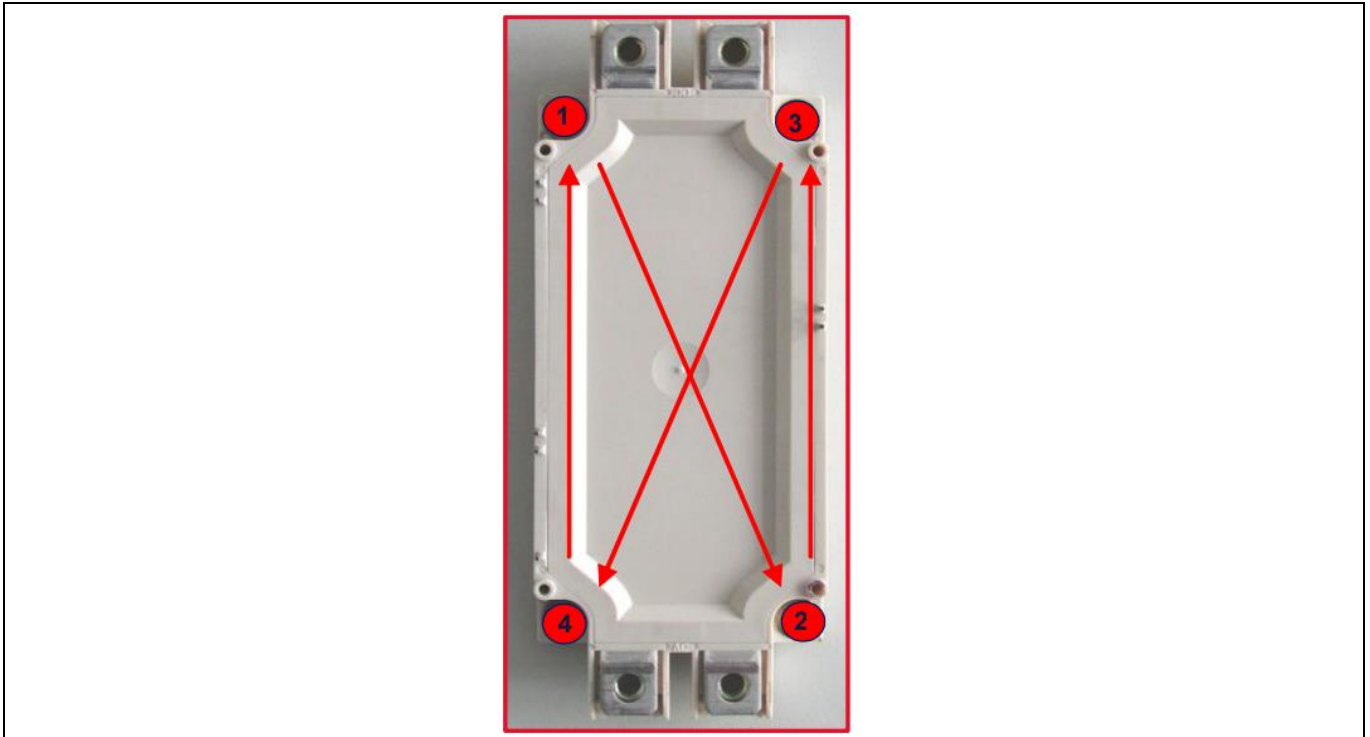

Figure 10 **Tightening sequence to mount the module on the heat sink**
1. Place the module on which the thermal compound is applied onto the heat sink and fix the screws as follows (see *Figure 10*):